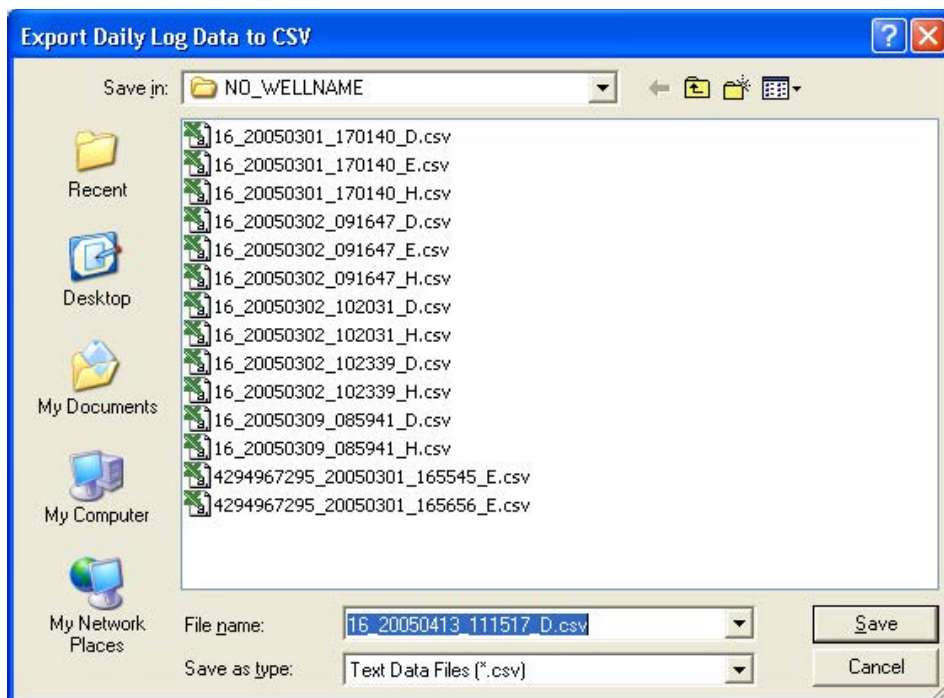

Figure 5.13—Default directory for exported log files
2. When the “Export Daily (or Hourly) Log Data...” window appears, click “Save.” By default, exported logs are saved in C:\NuFlo log data\MC-III\<WELL NAME>, however the user can specify a new location, if desired (Figure 5.13, page 84). The “wellname” folder will bear the well name that appears on the Wellsite Information screen. If no well name is entered on this screen, the folder will be named “NO_WELLNAME.”